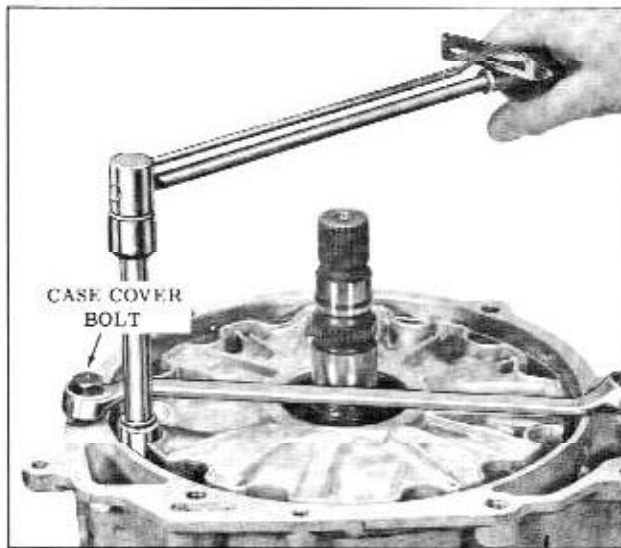

Fig. 3-124 Torus Cover Installation
16. Install box end wrench on case, as a holding tool, and install 12 torus cover to drive torus attaching bolts, cross tightening the bolts. Torque 17 to 20 ft. lbs. (Fig. 3-124)